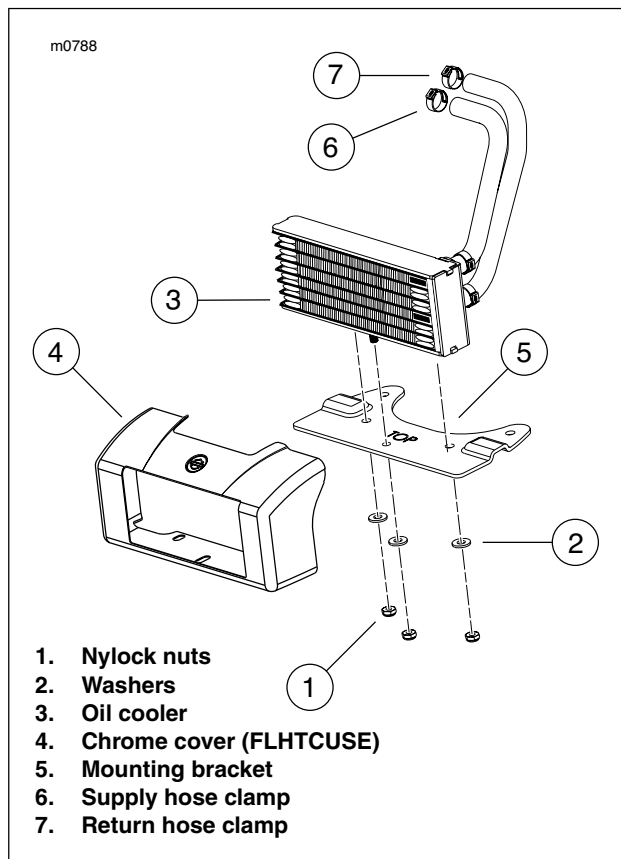

Figure 2. Oil Cooler
1. See Figure 2. Remove the nylock nuts (1) and washers (2) holding the oil cooler (3) to the frame mounting bracket (5). Discard the nylock nuts.
3. Use the HOSE CLAMP PLIERS (HD-97087-65B) to cut the clamps on the supply (6) and return oil hoses (7) at the oil cooler adapter.
4. Remove the chrome cover (4) with the oil cooler.